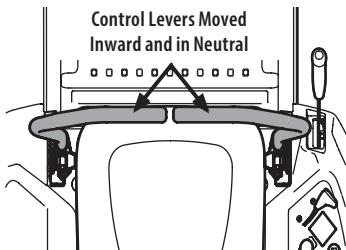

Figure 21
- Move the RH and LH lapbar drive control levers inward in the neutral position which also disengages the parking brake (Figure 21).